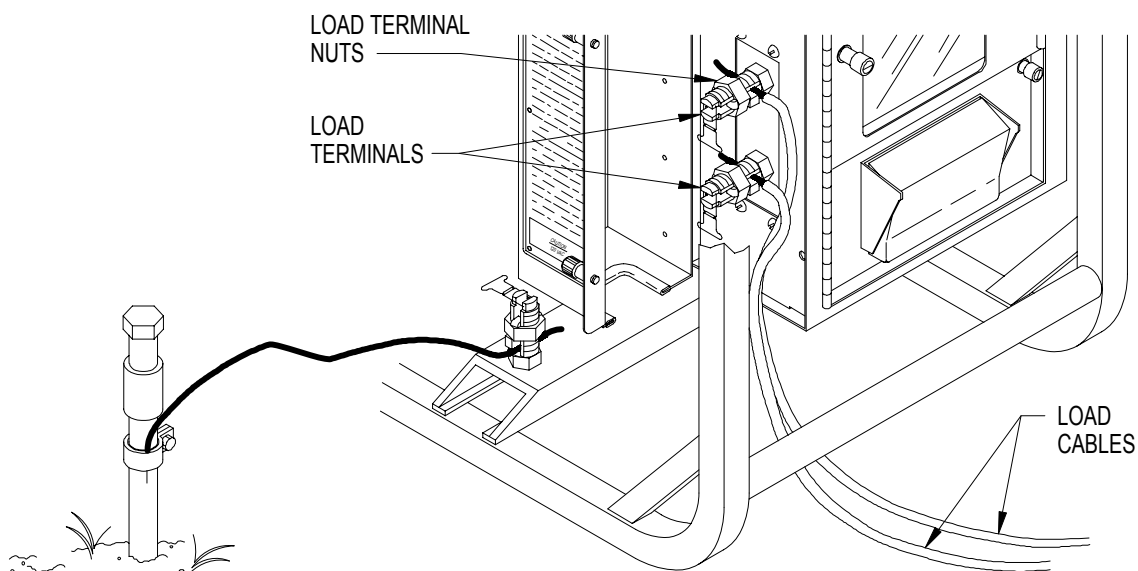

Figure 2-3. Installation of Load Cables
- (1) If operating, shut down generator set and open load terminal board cover.
- (2) Using suitable wrenches, hold terminal body hex with one wrench and loosen terminal nuts (Figure 2-3) on terminals "L" and "N" (MEP-531A) or "+" and "-" (MEP-501A).
- (3) Insert ends of load cables through load cable exit. Then insert ends of cables into slots of load terminal studs.
- (4) Hold terminal body hex with one wrench and tighten load terminal nuts and lock retaining clips. Then close and secure load terminal board cover.